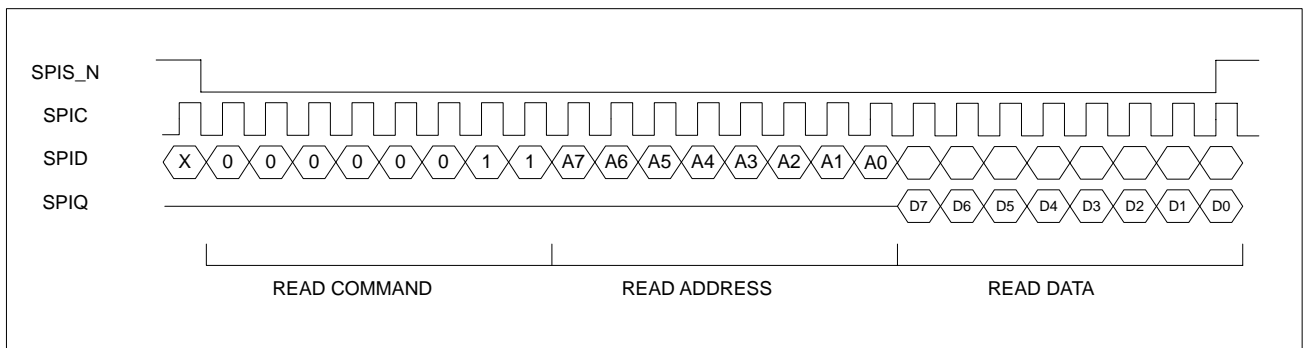

Figure 9. SPI Read Data Cycle
5. Registers can be read and configuration can be verified with a typical SPI read data cycle as shown in Figure 9 or a multiple read as shown in Figure 11. Note that read data is registered out of SPIQ on the falling edge of SPIC.